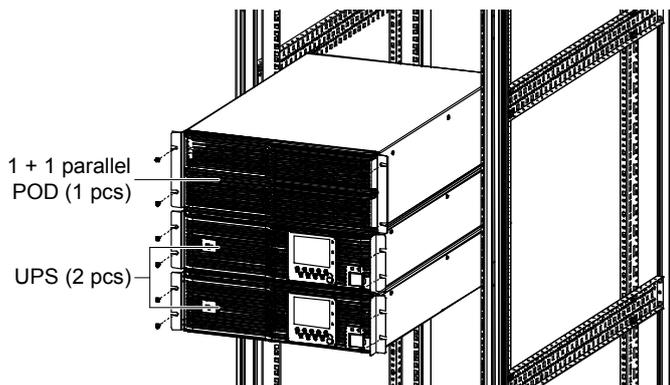

Figure 3-1 1 + 1 parallel system installation (without battery module)
2. As shown in Figure 3-1, the UPS should be installed at the bottom; and the 1 + 1 parallel POD should be installed on the top to facilitate the cable connection and operation. The installation method of 1 + 1 parallel POD is the same as that of the UPS.